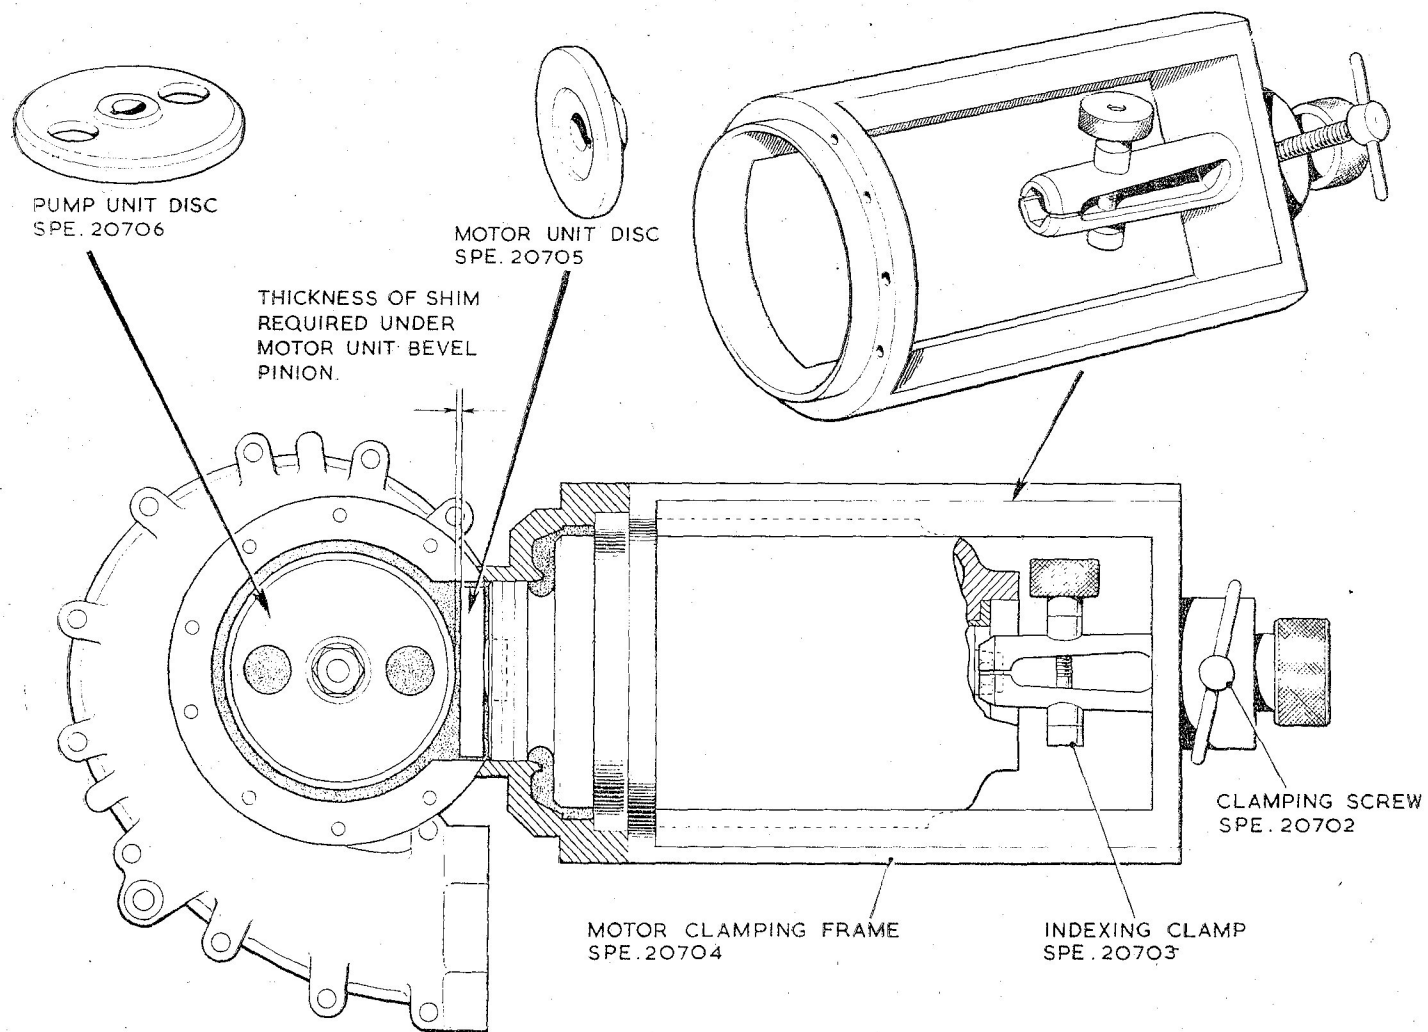

Fig. 16. Bevel pinion shimming
34. (1) Before completing the motor unit assembly it is necessary to determine the thickness of the shim (104) required to position the bevel pinion and obtain correct meshing with the pump shaft gear. Proceed as follows:
(a) Remove the locknut (41) and washer (40) securing the spacer or bevel gear to the pump shaft. If a gear is fitted, use the extractor SPE.20689 to assist removal. Fit the special disc SPE.20706 (fig. 16) to the pump shaft and secure.
(b) Remove the distance piece or the bevel pinion fitted to the motor unit. Fit the special disc SPE.20705 (fig. 16) to the rotor shaft and secure.
(c) Locate the motor unit in the recessed housing of the pump casting and secure in position with the special clamping frame SPE.20704 (fig. 16). Use 4 B.A. bolts and nuts in four positions only to securely clamp the motor unit in position.
(d) With feeler gauges measure the gap between the outer edge of the pump shaft disc and the front face of the motor spindle disc (fig. 16). This is the thickness of shim (104) required for assembly under the motor unit pinion to give correct meshing of the pinion with the pump shaft gear wheel.